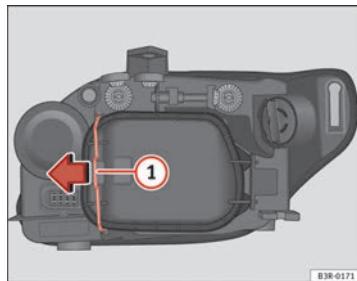

Fig. 212 Side light bulb (outside of vehicle)
- Move the brace ⇒ Fig. 212 ① in the direction of the arrow and remove the rigid cover, separating the brace side and then removing the two tabs from the other end of the cover.